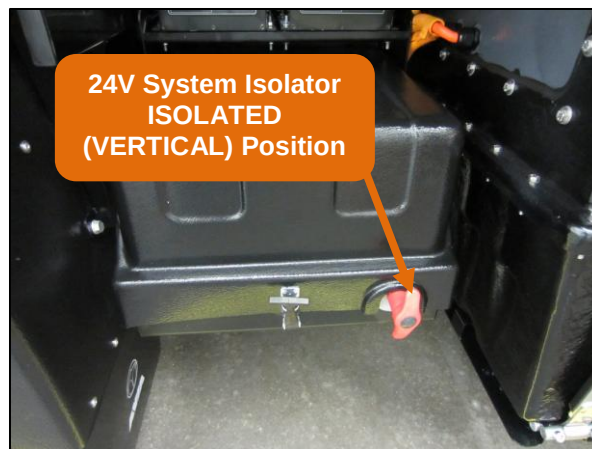

Figure 2.2
2. Turn the 24V System Isolator Switch to the ISOLATED (VERTICAL) position. This switch is located on the driver's side of the vehicle behind the cabin on the 2x12V battery tray (Figure 2.2).